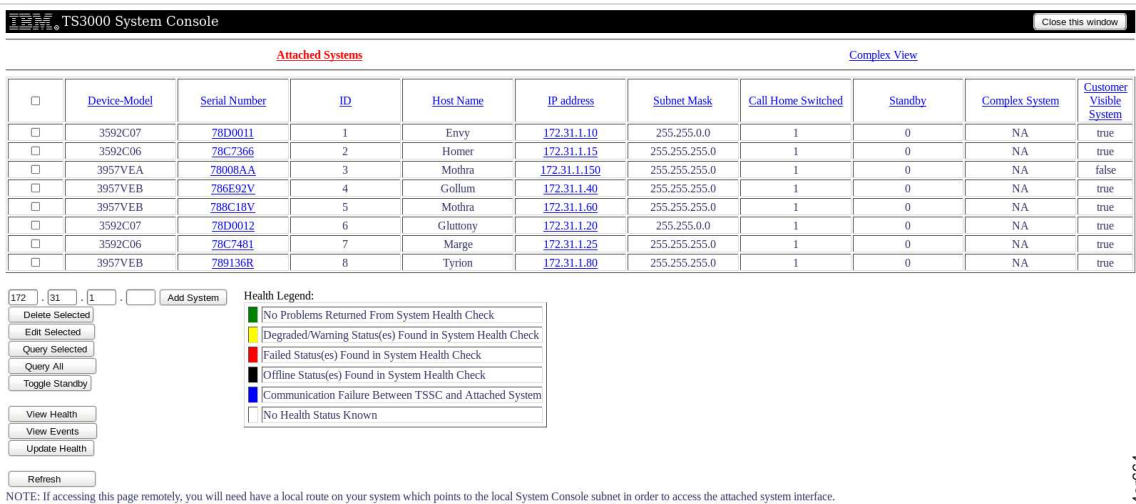

Figure 155. Attached Subsystems List Screen. Use with Table 14.
- 3. Select **Attached Subsystems**. You see Figure 155. You can sort the list by clicking on a column heading.
Table 14. Color Indications for Health Check. Use with Figure 155.